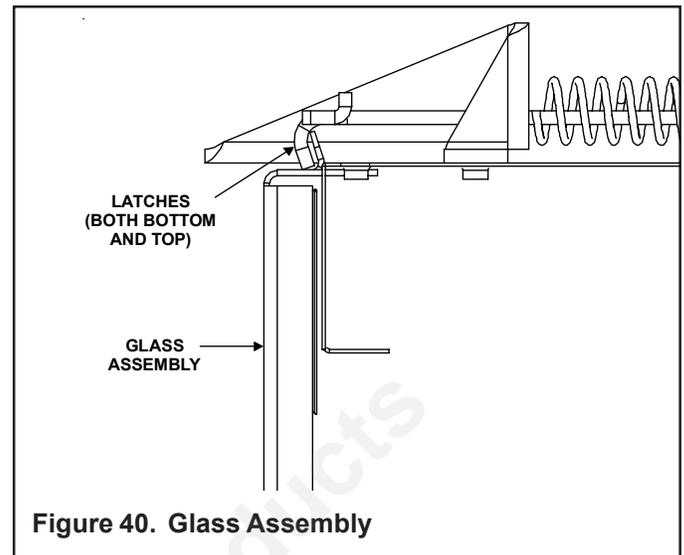

Figure 40. Glass Assembly
- Pull the four glass latches out of the groove on the glass frame. Remove glass door from the unit (see Figure 40).